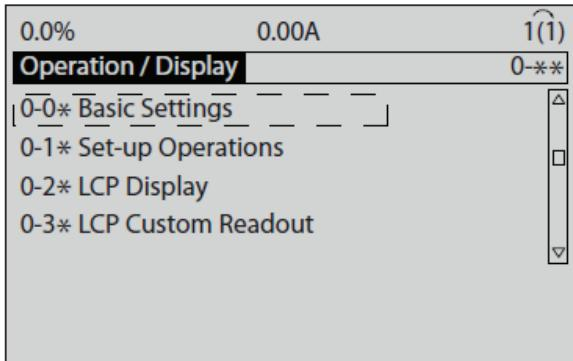

Fig. 25 — Operation/Display
3. Press navigation keys to scroll to parameter group 0-0* Basic Settings and press [OK]. See Fig. 25 for Operation/Display illustration.